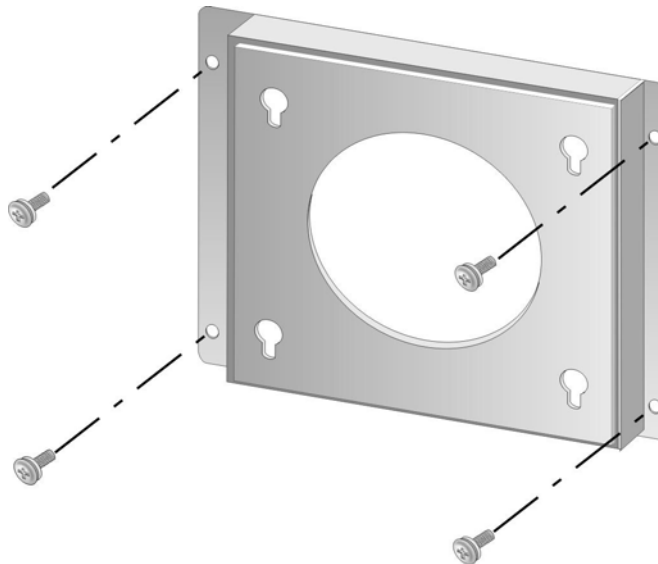

Figure 3-6: Wall-mounting Bracket
- Step 5:** Secure the mounting-bracket to the wall by inserting the retention screws into the four pilot holes and tightening them (**Figure 3-6**).